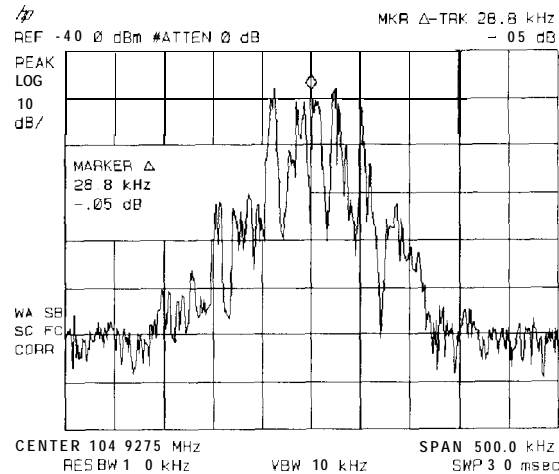

Figure 3-9. Using Marker Tracking to Track an Unstable Signal
- The signal frequency drift can be read from the screen if both the marker track and marker delta functions are active. Press **(MKR)**, **MARKER Δ**, **(MKR FCTN)**, **MK TRACK ON OFF** ; the marker readout indicates the change in frequency and amplitude as the signal drifts. See Figure 3-9.